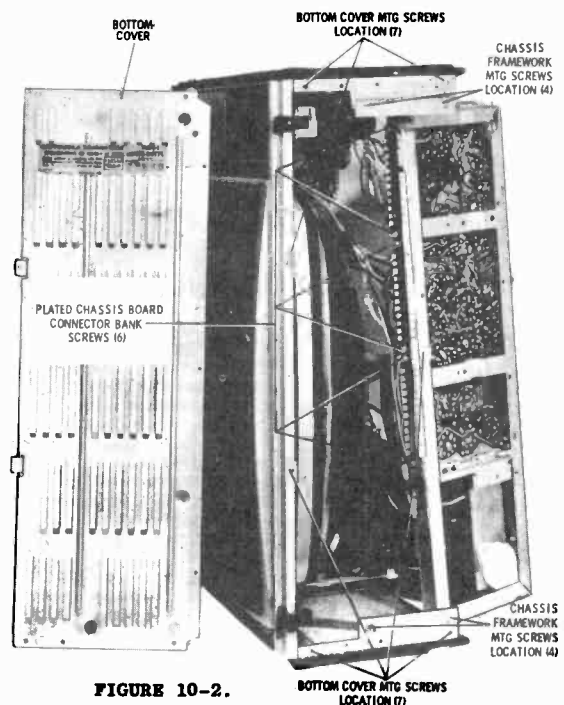

FIGURE 10-2.
Place receiver on its side and remove the seven (7) bottom cover mounting screws and the four (4) chassis framework mounting screws as shown in Fig. 10-2. Pull out chassis framework as shown in Fig. 10-2 to gain easy access to the six (6) connector bank screws and remove same. Remove the three (3) connector banks by pulling straight away from the plated chassis board. DO NOT twist or bend to avoid possible damage to plated chassis board.
1. Remove the back cover and bottom cover as illustrated in Fig. 10-2, disconnect bottom cover isolation network. Remove the one (1) tuner mounting screw and slide tuner out partially to gain easy access to test points.